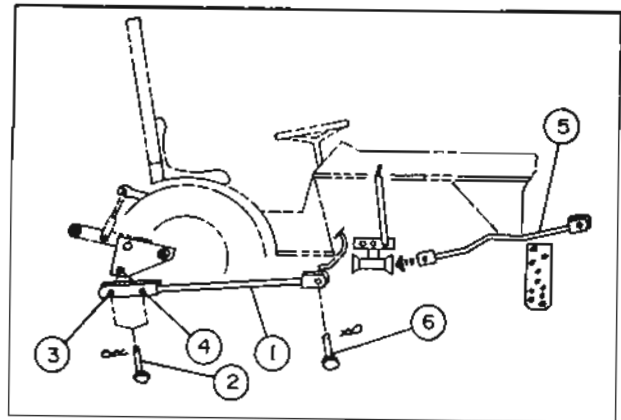

FIGURE 7
h) Insert longest fork end of straight lift rod (fig.7, item 1) from under front right hand footboard to lift bracket and attach using a $5/8"$ x $1\ 5/8"$ pin (fig.7, item 2) and a 3mm x 65mm hair pin as follows:
- B1550 & B1750: Attach to rear hole position (fig.7, item 3).
- B7100: Attach to second from rear hole position (fig.7, item 4).
i) Insert flatbar end of bent lift rod (fig.7, item 5) through welded tube at bottom of rotation support from the front side. Place bent lift rod with the bend on the upper side and secure the two lift rods together using a $5/8"$ x $1\ 5/8"$ pin (fig.7, item 6) and a 3mm x 65mm hair pin.